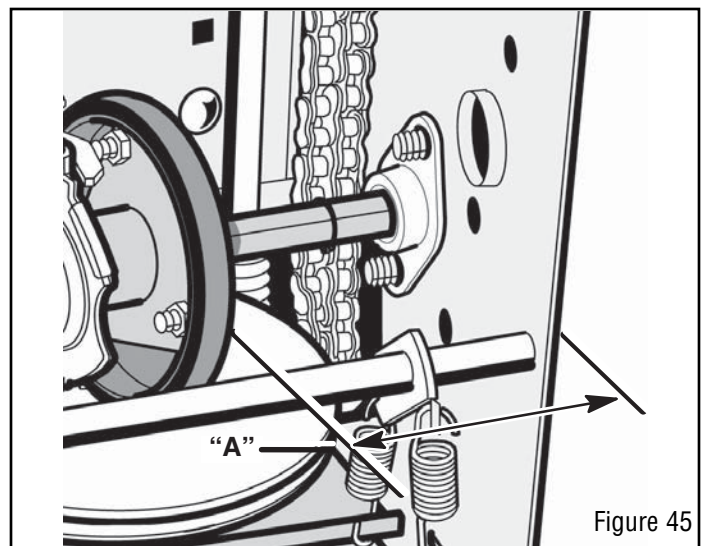

Figure 45
6. Note the position of the **friction wheel** (see Figure 45). The correct distance “A” from the right side of the **friction wheel** to the outside of the motorbox is as follows:
3. Move the **friction wheel** to the correct position (see Figure 45).